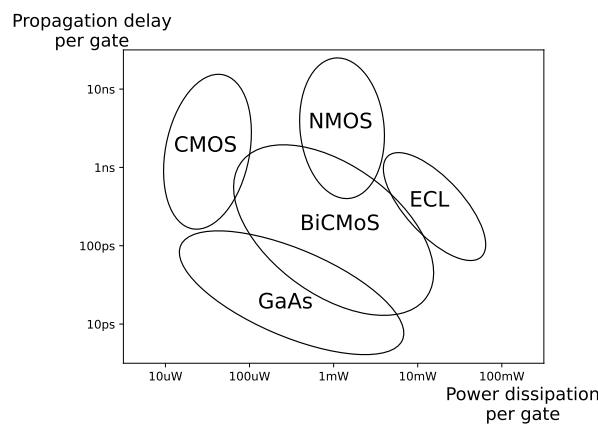

Fig. 4
- (b) The propagation delay and power dissipation values of different technologies are given in Fig. 4.
Assessor's Comments: The question was about CMOS fundamentals and how they affect certain performance metrics such as power, cost, frequency of digital circuits. The question was also popular as 55 candidates out of 75 attempted. The average was 59.6 out of 100 with a standard deviation of 18. Part (a) asked the main disadvantages of the use of resistive load compared to transistor load in MOS logic implementations. While overall majority of the candidates answered correctly, surprisingly a large number of candidates did not consider the surface area inefficiency of the resistive loads. Part (b)(i) was about finding suitable transistor technology for a given operating frequency and power constraints using Fig. 4. Most students successfully identified potential solutions, while few recommended to use ECL and BiCMoS despite more power-efficient alternatives are available. Majority of the students attempted the part (b)(ii) were very successful in comparing NMOS and CMOS from the perspectives of power, manufacturing cost and area efficiency. Part (c)(i),(ii),(iv) were about the relation between device dimensions, transistor currents, and hence, switching performance under different settings. Some of the candidates performed very well in these questions. Part (c)(iii) was about a transistor-level implementation of a CMOS 2-input NOR gate. The students were able to provide this implementation without major difficulty. Part (c)(v) focused on the comparison of NAND and NOR gates in terms of the area efficiency. While some students directly concluded that they would perform the same as they have the same number of transistors, however, most students acknowledged the differences in the circuit structures of these gates yielding NAND as more favorable in terms of the area efficiency.